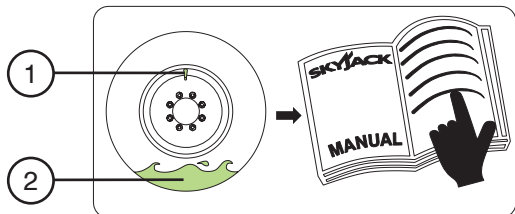

Figure 2-8. Tire Sealant Label
- When depressurizing, inflating or checking tire pressure, ensure that valve stem is at the top to prevent sealant from entering the stem (refer to Figure 2-8).